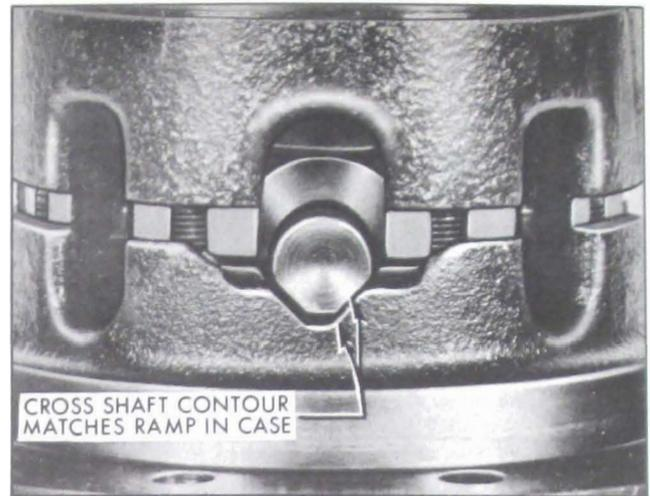
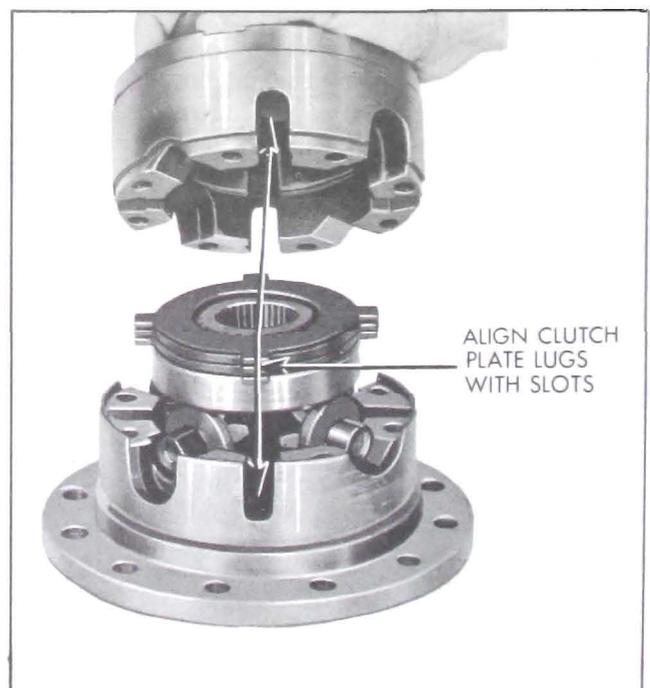

Figure 6-38—Matching Cross Shafts and Case Ramps
Figure 6-39—Installing Differential Parts
6. Install pinion gear and cross shafts as shown in Figure 6-39. Be certain bevelled sides of shafts match ramps in case. See Figure 6-38.